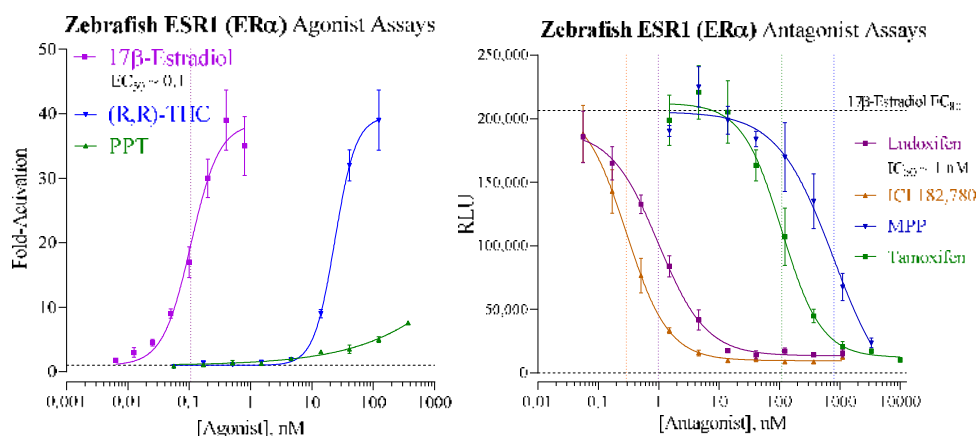

Figure 2. Agonist and Antagonist dose-response analyses of Zebrafish ERα.
- *Optional*: antagonist reference compound (refer to Fig 2)